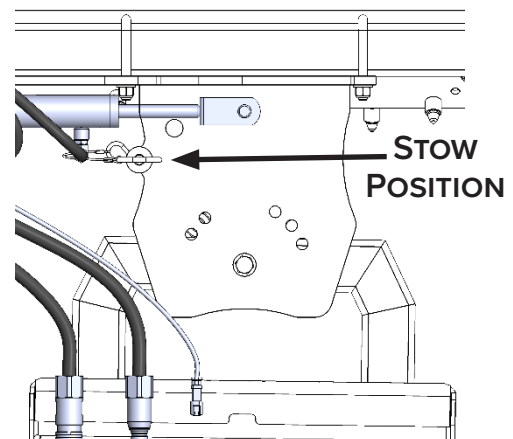

Figure 5
1. Ensure the pivot pin is in the stowed position hole [Figure 5].